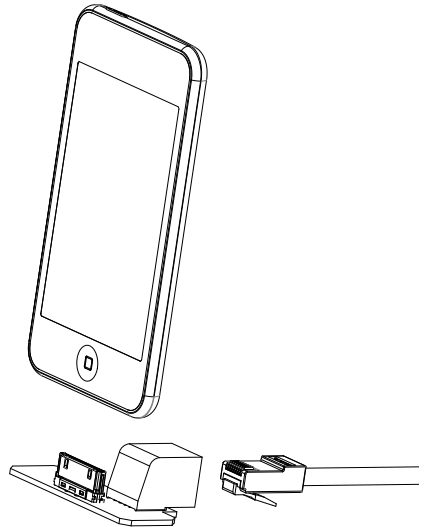

Figure 6: Connector Board
11. Connect the Cat5 cable from the wall to the RJ-45 jack on the connector board and then mount the iPod touch to the connector board as noted in figure 6.